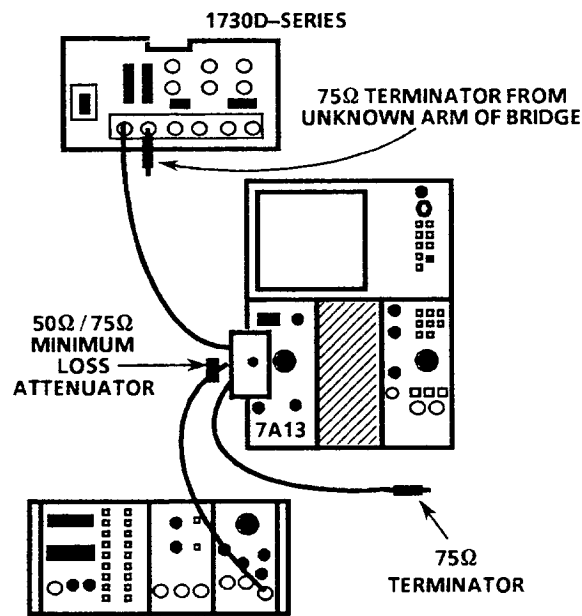

Figure 6-10: Measuring return loss of 1730D CH-1 ANALOG INPUT
- c. Connect the Unknown arm to the CH-1 ANALOG INPUT of the 1730D instrument and the terminator to the opposite side of the loop-through. See Figure 6-10.